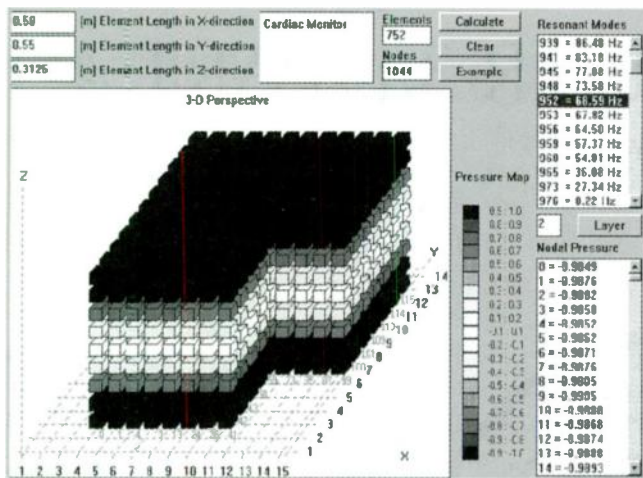

FIGURE 9: The 68.6Hz mode developed between the floor and ceiling.
4. *Figure 9* shows the 68.6Hz mode developed between the floor and ceiling.
FIGURE 9: My notions of how box walls become lively. It's not the sound, but the structurally borne vibrations. **A** depicts the dominant activity of a small box (compared to woofer-frame size) with a strong front baffle. **B** shows how a larger box is more prone to vibrate.